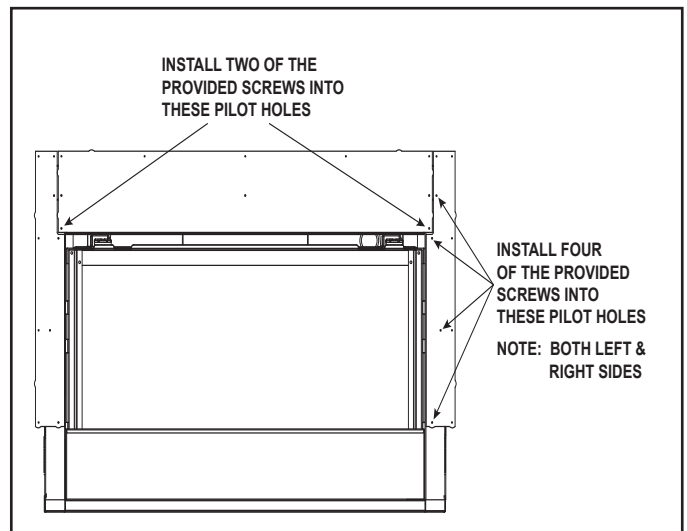

Figure 6.6 Installation of the Side Non-Combustible Components
4. Further secure the top non-combustible board by installing screws into the pilot holes located in the upper left and right corners of the top non-combustible board as shown in Figure 6.6.
5. Install the left and right non-combustible components with four of the provided Phillips screws. See Figure 6.6.